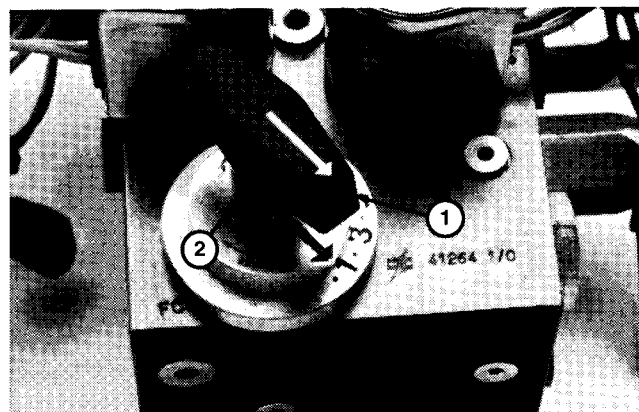
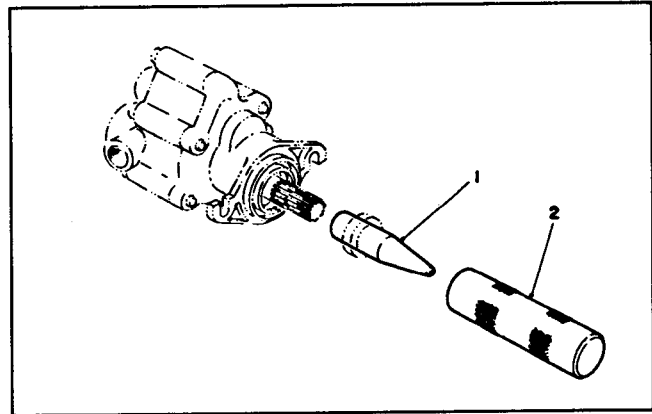

Figure 90
Figure 95
5. Thread other jam nut onto valve stem. Apply "Loctite 242" or equivalent to threads on end of valve stem. Thread knob onto valve stem, align arrow on handle with arrow on indicator plate and tighten top jam nut against knob (Fig. 90).
3. Remove snap ring from motor (Fig. 95).
4. Install threaded metal o-ring seal plugs in the two (2) pressure ports on the motor or put metal threaded caps on the fittings in these ports.
5. With motor shaft pointed away from you into a clean five (5) gallon container, attach a hydraulic load (hand pump) or compressed air to the case drain port.
6. With the motor shaft pointed away from you into a clean five (5) gallon container, gradually apply pressure to the case drain port. The seal should come out of the motor seal cavity.
10. Put seal protector tool on motor shaft (Fig. 90) or apply thin plastic or tape on the shaft to protect the seal from damage.